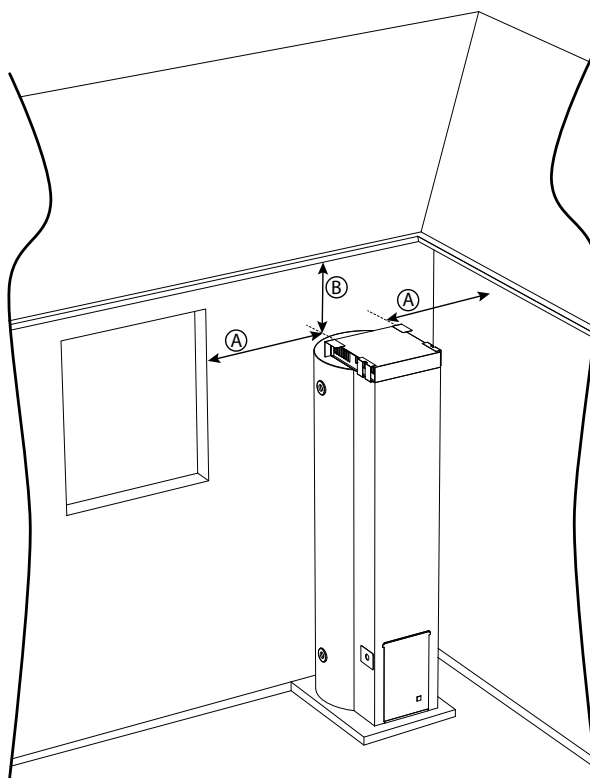

Figure 1 - Vertical Flue Terminal Clearances
The water heater must be installed outdoors, with the minimum clearances as shown and must be installed on a permanently level, stable and clean draining surface suitable for this appliance. Refer to Figure 1 below.
1. Turn the knob fully clockwise to the "●" (Off) position. (Figure 1).
2. Wait five (5) minutes so any build-up of unburnt gas can escape. (Figure 1).